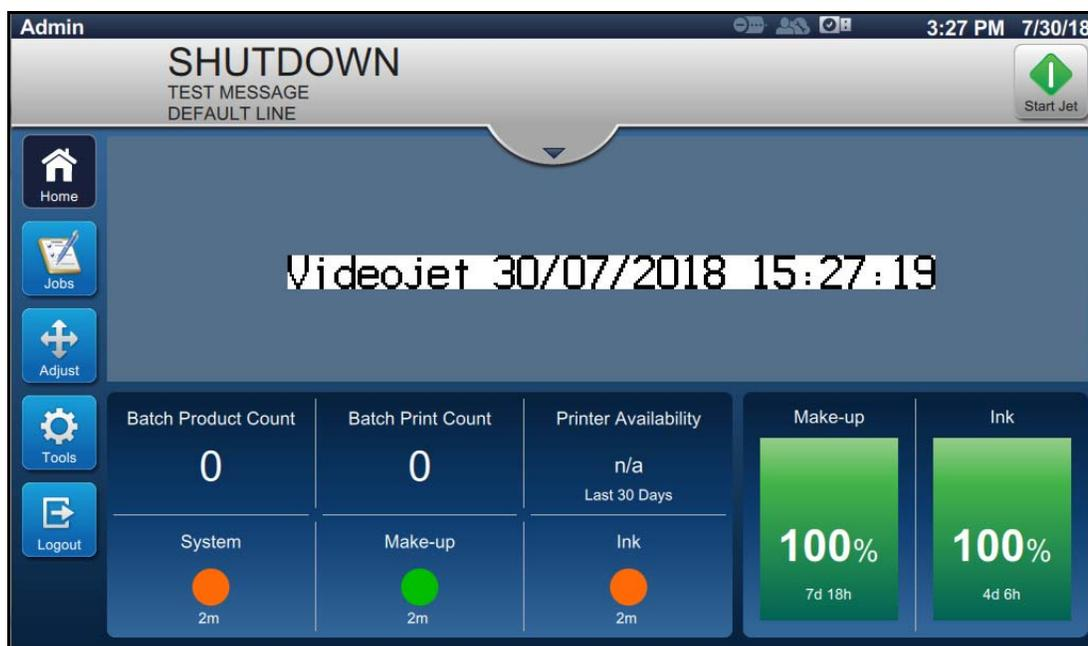
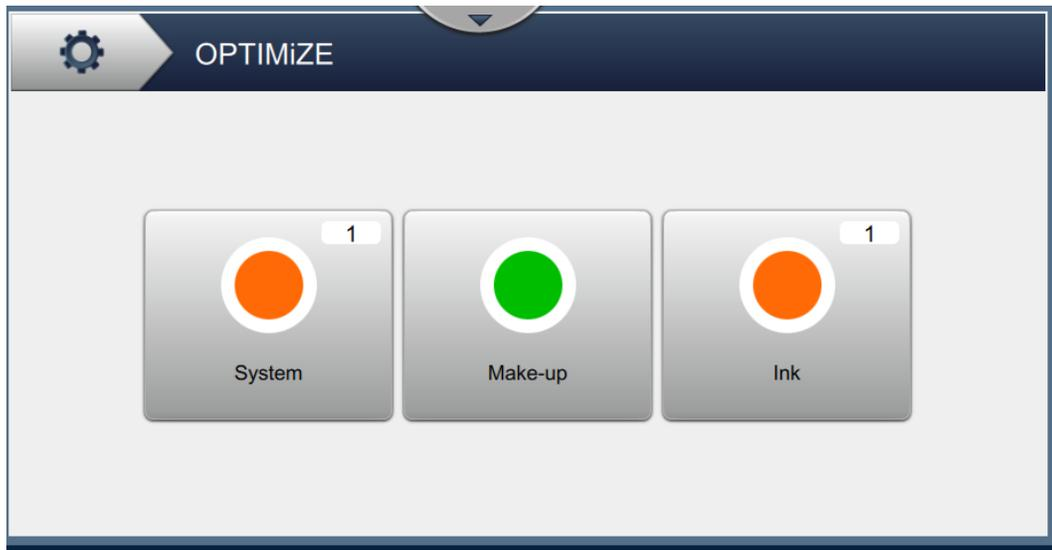

Figure 1-1: Home Screen
Figure 1-3: OPTIMIZE Screen
1. Turn on the printer. The printer will start up and on completion, the Home screen will be displayed. The printer will be in SHUTDOWN mode as shown in Figure 1-1.
3. Navigate to *Tools > OPTIMIZE* as shown in Figure 1-3. Alternatively select the OPTIMIZE dashboard from the Home screen (Figure 1-1 on page 1-1).